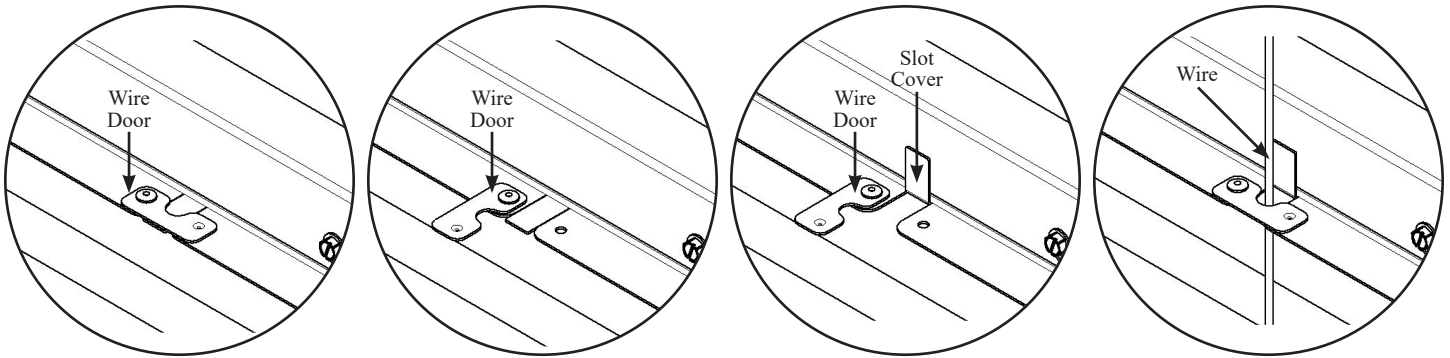

Fig. 3 - Fan with Light
3. When using a fan equipped with a grille light, rotate the wire door and bend down the slot cover with a screwdriver. Route the wire from the grille through the slot, and rotate the wire door back to its original position to secure the wire. (Refer Fig. 3)